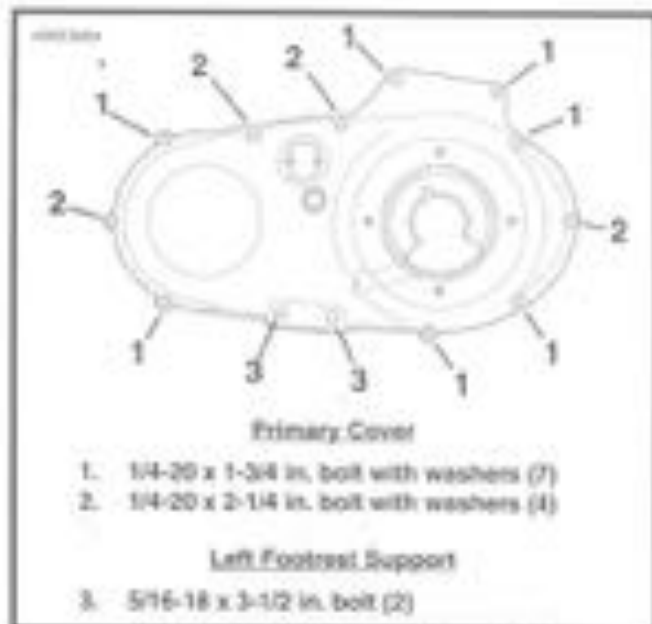

Figure 6-6. Install Primary Cover Bolts
3. See Figure 6-6. Install primary cover and gasket onto left crankcase half using mounting screws. Tighten screws to 80-110 in-lbs (9.0-12.4 Nm) torque.